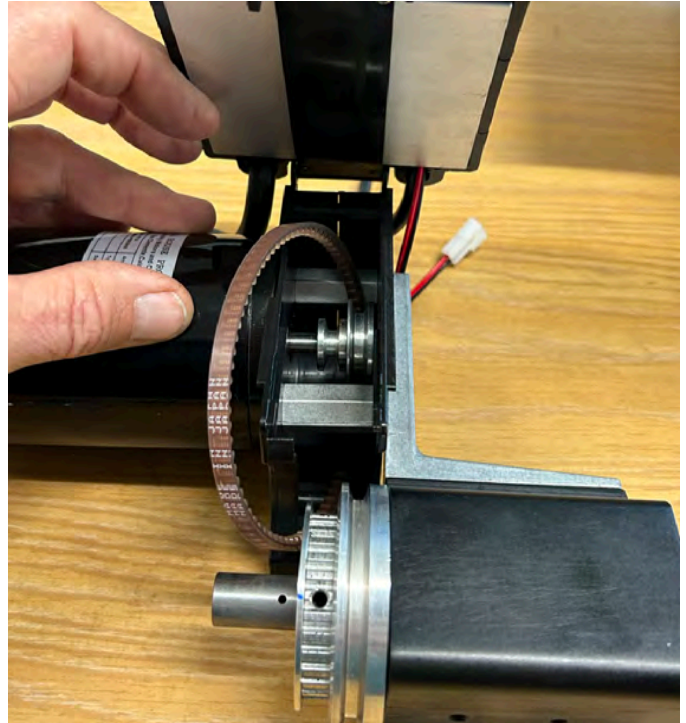

FIGURE 11
1. Align the motor and headstock with the pulley on the front motor pulley groove (see Figure 11).